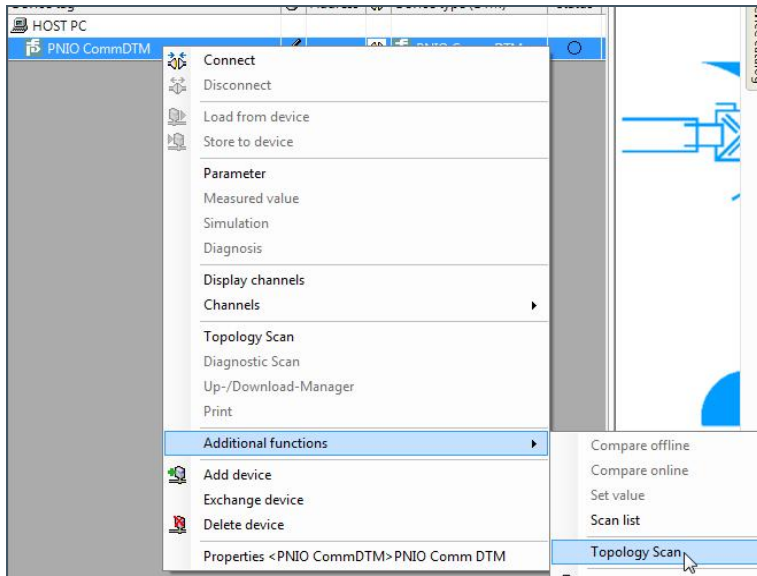

Figure 49: Search for Topology Scan of gateway module
- 1) Right-click **PNIO CommDTM**, then select **Additional functions** > **Topology Scan** (see: Figure 49: Search for Topology Scan of gateway module).